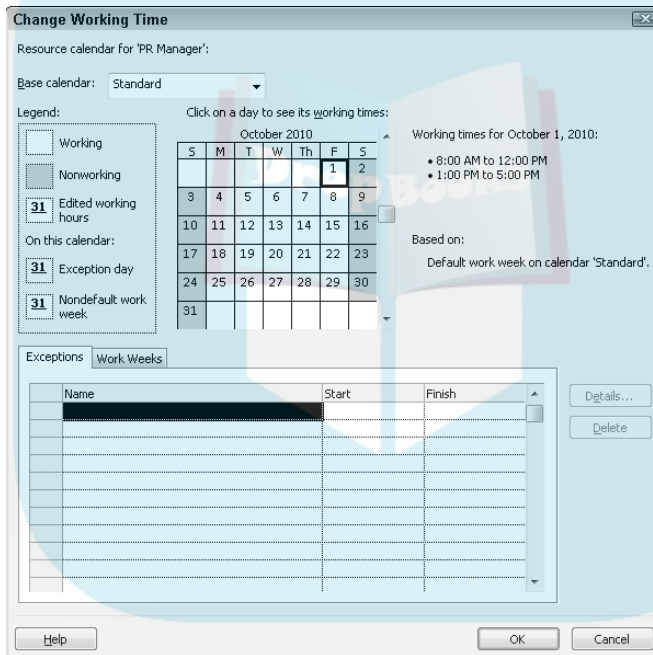

Figure 3-7:
3. Click the Change Working Time button on the General tab to display the Change Working Time dialog box, shown in Figure 3-7.